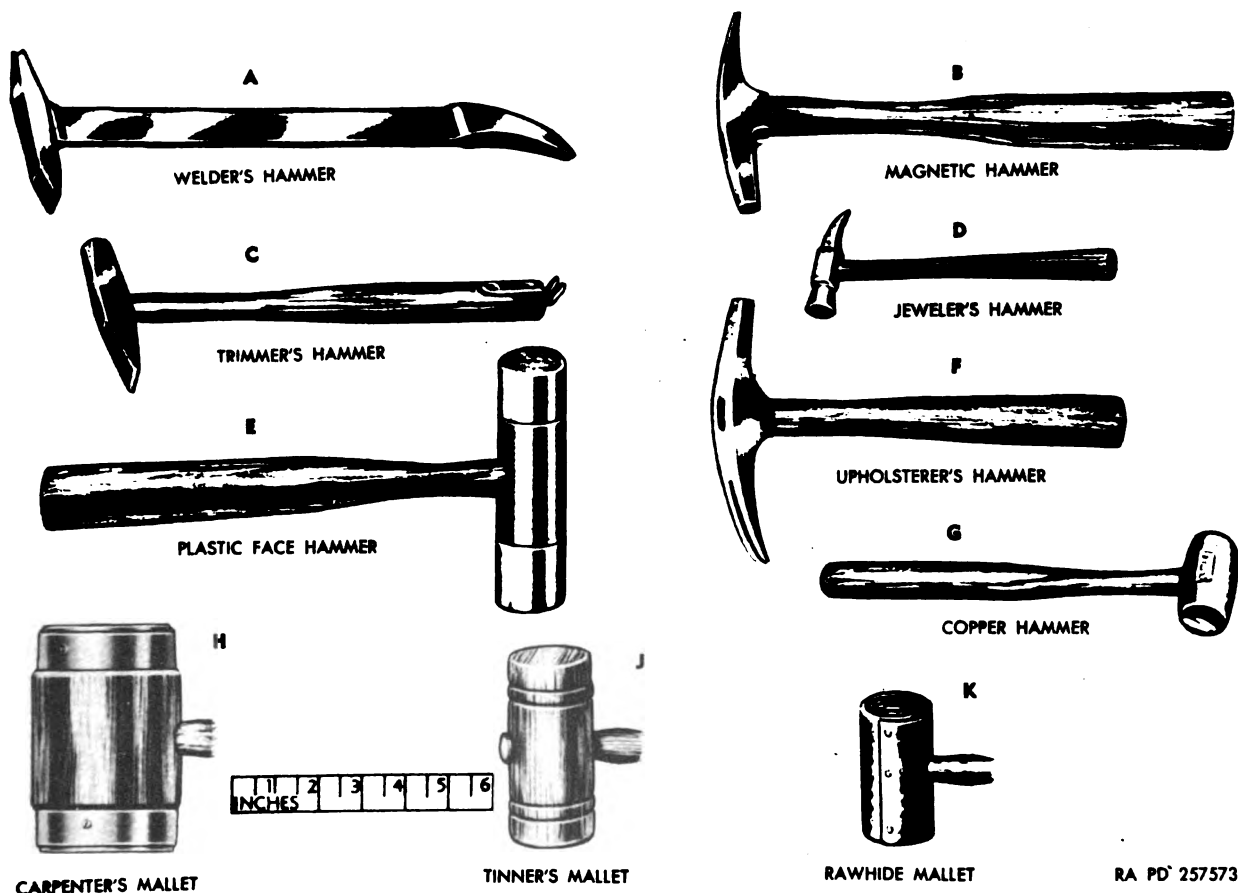

Figure 103. Mallets and hammers.
l. *Jeweler's Hammer.* A jeweler's hammer (D, fig. 103) is used for light hammering and for driving small shafts and pins. This hammer weighs $1\frac{3}{4}$ to 2 ounces and generally has a hardwood handle.
m. *Trimmer's Hammer.* A trimmer's hammer (C, fig. 103) has one face chisel-like, the other round. It weighs 7 ounces, the head is $5\frac{1}{8}$ inches long, and the overall length of the hammer is 12 inches. A claw, which is used to pull tacks, is attached to the end of the handle.
n. *Magnetic Hammer.* A magnetic hammer (B, fig. 103) weighs 4 ounces, has a 4-inch head, and an overall length of 12 inches. The round face is magnetized so that a tack head
o. Upholsterer's Hammer. The upholsterer's hammer (F, fig. 103) has a magnetic face and a tack pulling end. It weighs 7 ounces, has a head length of $5\frac{1}{2}$ inches, and an overall length of $10\frac{3}{4}$ inches. The magnetic face of the hammer holds the tack while the upholsterer uses one hand to fit cloth and the other to hammer with.
p. Welder's Hammer. A welder's hammer (A, fig. 103) is used for chipping welds. The opposite end of the hammer is sometimes equipped with a wire brush for cleaning metals before welding and brushing slag away after chipping.
q. Soft-Faced Hammers. Wood-handled, soft-faced hammers are used for striking heavy blows where the steel faced hammers would bruise or mar the surface of the work. The soft faces are made of rubber, wood, rawhide, copper, lead, or plastic, and the head may vary in weight from 6 ounces to 6 pounds. The Ordnance supply system issues a 3-pound copper hammer (G, fig. 103) and several inserted plastic-face hammers. The plastic-face hammers (E, fig. 103) are supplied with two soft, two medium, two tough, and two nylon replaceable faces.
a. Carpenter's Mallet. A carpenter's mallet (H, fig. 103) is a wooden, short-handled tool used to drive wooden handled chisels, wooden dowels, or small stakes. The head is cylindrical and has two flat driving faces. It is sometimes reinforced with iron bands at each end. This mallet is also used for smoothing out dents in sheet metal and for turning thin metal edges and seams without cutting the metal surface.
b. Rawhide Mallet. The rawhide mallet (K, fig. 103) is used to form or shape sheet metal where hard-faced or steel hammers might mar or injure the work.
c. Tinner's Mallet. A tinner's mallet (J, fig. 103) is made of wood ranging in size from $1\frac{1}{4}$ -inch head diameter and 3-inch head length to $3\frac{1}{2}$ -inch head diameter and 6-inch head length.